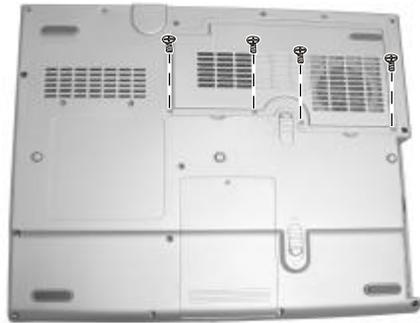

Figure 2-6 Remove four screws
3. Remove four screws that fasten the heatsink compartment covers. (Figure 2-6)